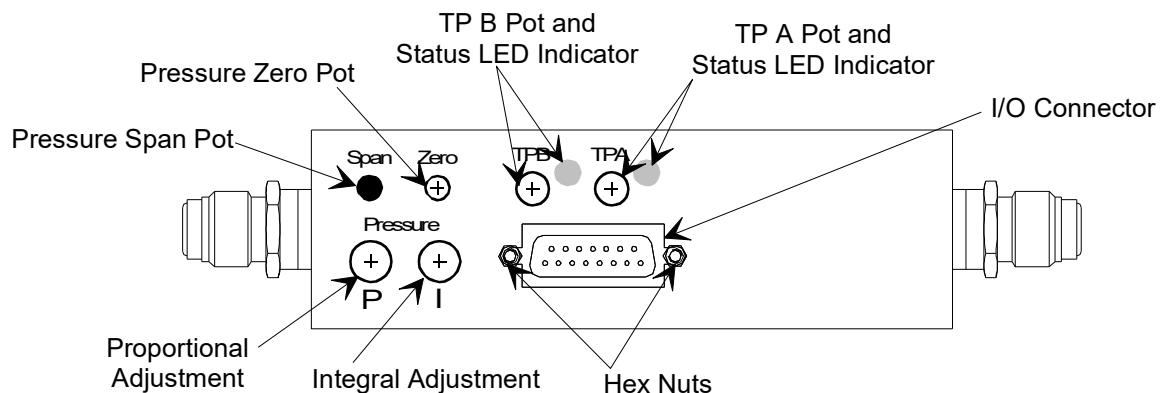

Figure 6 - Top View
The 649B controller has one 15-pin, male Type "D" connector that provides the pressure output, setpoint input, and trip point output signals. Refer to Figure 6 for the location of the connector.
Figure 6 shows the top view of the 649 pressure controller. The user adjustable controls for pressure zero, pressure span, the P term, the I term, and the trip points are located on the top of the controller. The trip point settings can be measured through two test jacks, located under the enclosure, on the Transducer board. Refer to Figure 14 for the location of the test jacks.
The Proportional (P) term adjustment is located on the top of the 649 unit, as shown in Figure 6, page 47. The control is a 10-position dial, though it uses only 8 values. The last positions, 8 and 9, repeat
The Integral (I) term adjustment is located on the top of the 649 unit, as shown in Figure 6, page 47. The control is a 10-position dial where the 0 setting has the *longest* integration time; the 9 position setting has the *shortest* integration time. The initial setting is 0.
The 649B controller provides two trip points (Trip Point A and Trip Point B). Each trip point operates independently and controls an open collector output that can be connected to an external relay. Each trip point has an adjustment pot, a status LED, and a test jack. Refer to Figure 6. for the location of the trip point adjustment pots and LEDs. The test jacks are located inside of the unit, under the enclosure, as shown in Figure 14. Refer to *How to Adjust the Trip Point Values*, page 59, for instructions on changing the trip point values.